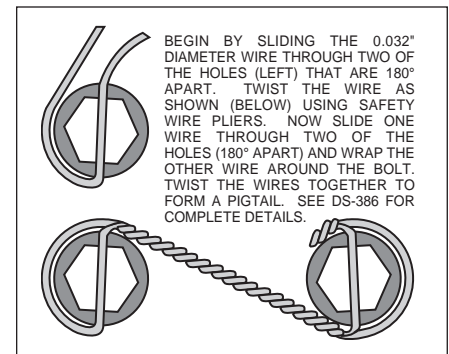

Figure 3. Safety Wire Diagram
- Assemble the rotor (5) to the hat (6) with the bolts (8) and washers (7) as shown in Figure 1. Using an alternating sequence, apply red *Loctite*® 271 to the threads and torque bolts to 25 ft-lb. For an added measure of security, the bolts may be safety wired using standard 0.032 inch diameter stainless steel safety wire as shown in Figure 3-. Please refer to Wilwood's data sheet DS-386 for complete safety wire installation instructions.
- Lubricate caliper mounting studs (12) and nuts (10) with lightweight oil. Install one shim (13) over each stud (12) on the radial mount bracket. Slide the caliper (9) in place over the studs and rotors and install the washer (11) and lock nut (10) to hold the caliper in place. Snug the lock nuts (10) and check that the rotor (5) is centered in the caliper (9). Add or subtract .015" shims (4) as necessary between the mount bracket and the spindle to center the caliper.
- Remove the caliper center bridge pad retainer bolt, nut, and tube from the caliper. Slide the brake pads (14) into place. They should install easily without interference. Check that the outside radius of the brake pad is aligned with the outside diameter radius of the rotor face. Add or subtract shims (13) between the caliper and mount bracket to gain the proper alignment. Reinstall the center bridge pad retainer tube, bolt, and lock nut. The locknut should be snug without play in the bolt or tube. Be cautious not to over tighten.
- Once all clearances have been checked, remove the wheel, caliper, hat, and rotor from the spindle and hub. Secure the caliper mounting bracket (1) to the spindle using red *Loctite*® 271. Torque the bolts to 60 ft-lbs. Reinstall the hat and rotor assembly and again use several lug nuts to hold it in place. Reinstall the caliper, torque the caliper nuts (10) to 30 ft-lbs.